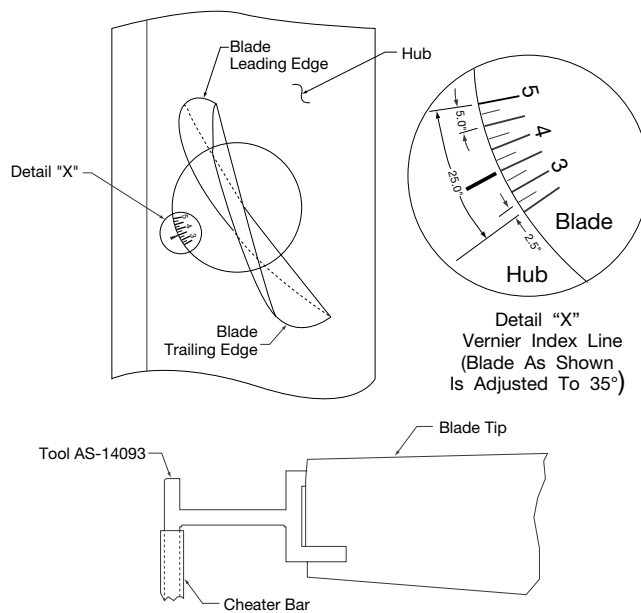

Figure 1.
5. Turn blade to desired angle. See Figure 1. There is an indicator mark on the hub. Align the Vernier index line on the blade with the indicator mark on the hub. The Vernier has the characters 3, 4, and 5 with gradation lines in between. (Note: Character 3 is 30°, 4 is 40°, 5 is 50°.) Each gradation is 2.5°. The blade is adjustable between 25° and 50°.